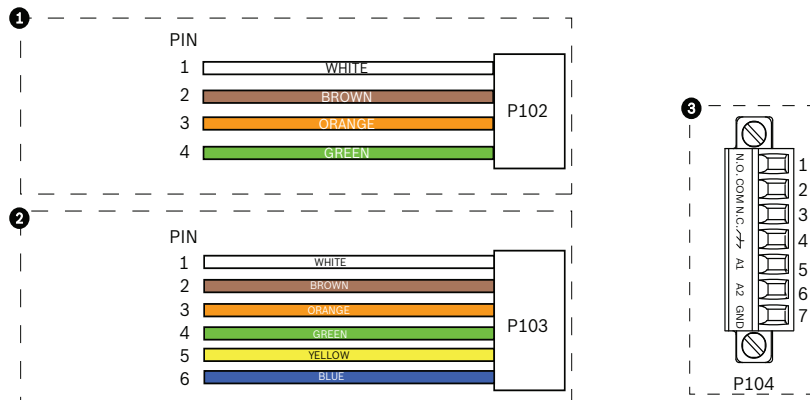

Figure 3.11 Alarm and Relay Connector Plugs
5. To connect supervised alarms and relays, attach the appropriate wires to their terminals on the P104 connector on the Pipe Interface Board (see *Figure 3.11*, above). In addition, see *Section 6 Alarms and Relay Connections, page 96* for more details on wiring alarms and relays.